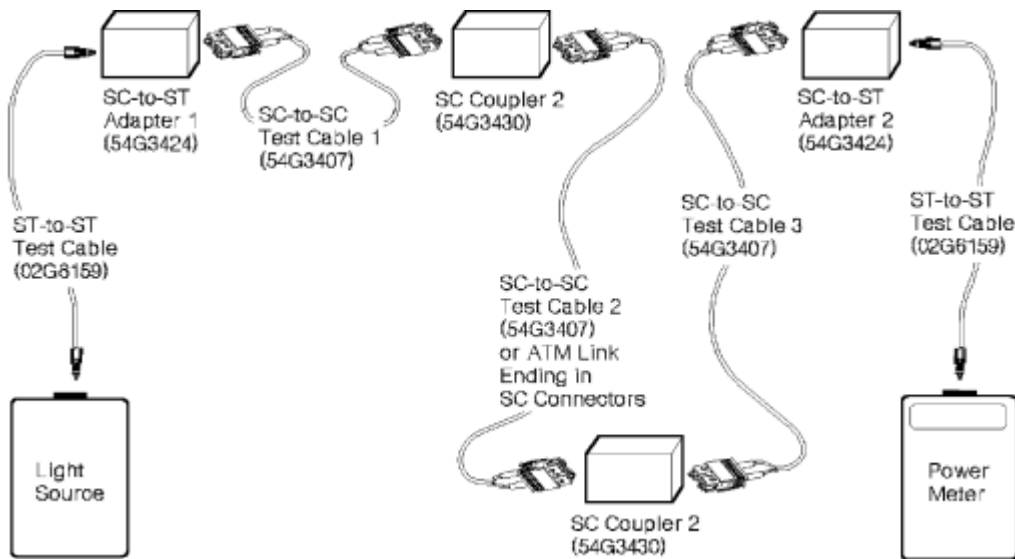

Figure 46. Obtaining the ATM end-to-end link loss using the fast-path method
- ATM, FICON, or GbE links - see Figure 46 on page 41.